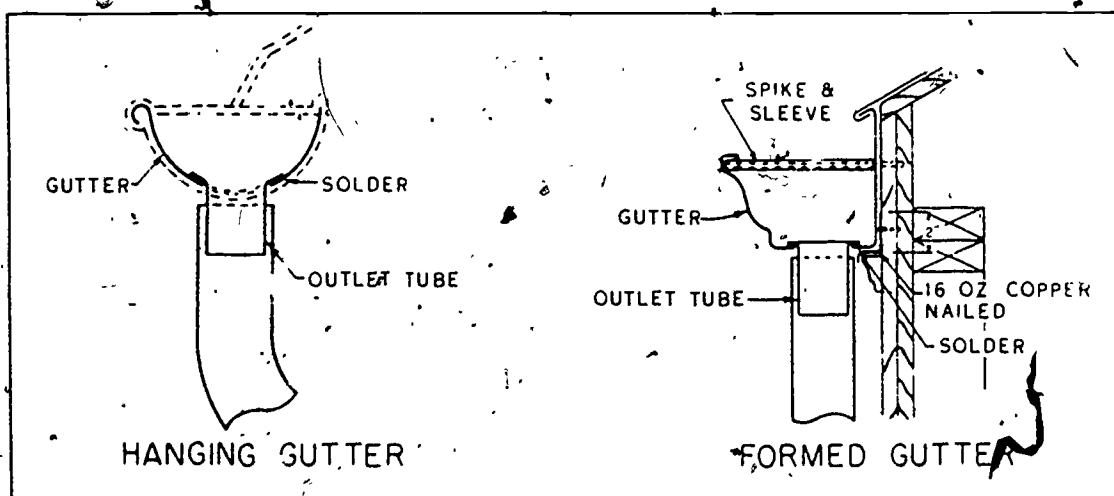
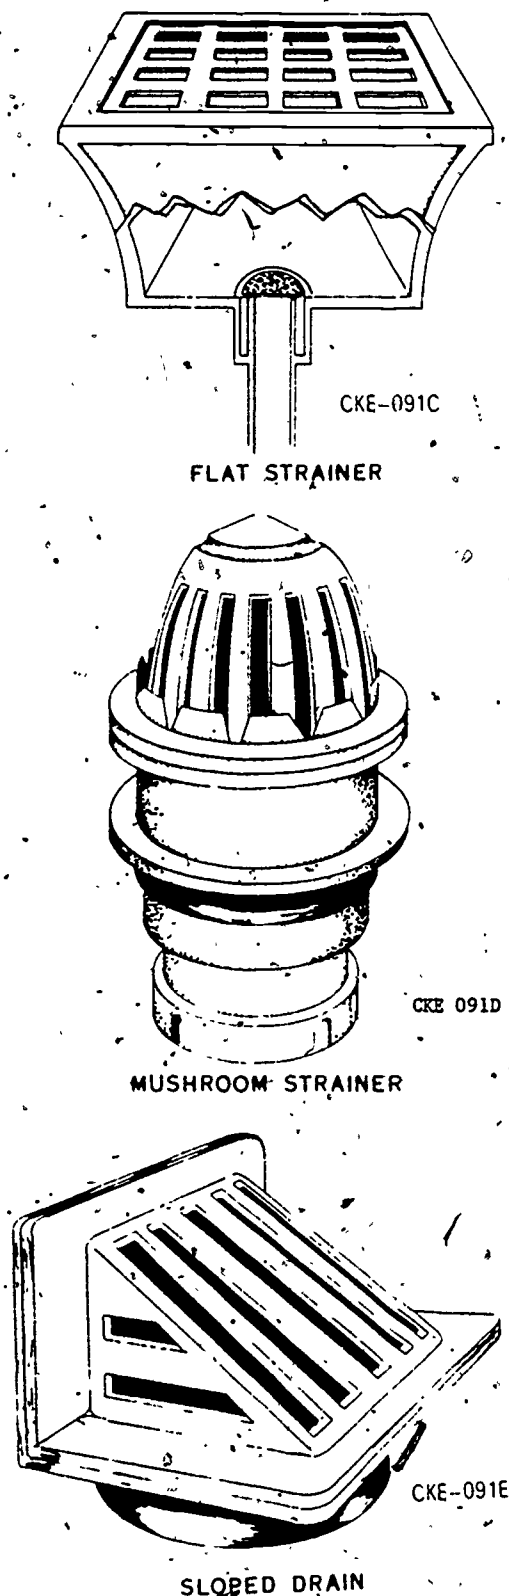

Figure 3-28 Hanging and formed gutters
Figure 3-29. Three types of roof drain strainers.
**Types of roof drains.** The water that accumulates on a roof may be removed by various methods. It may be allowed to run off and drip from projecting eaves or drain in gutters along the eaves. The water may also be collected by roof drains and carried to the sewer by interior drain pipes. The latter method is the most satisfactory, especially in cold climates where gutters and downspouts may clog up with ice and snow. This condition may cause water to back up above the flashing and find its way into the building. Inside drain pipes can be run down side columns, or installed in partitions or in exterior walls. In general, interior drain pipes receive sufficient heat from the building to keep them free of ice and snow. Figure 3-28 shows two types of gutters—the hanging gutter and the formed gutter—each of which can be used to collect the water at the eaves. There are three basic types of roof drain strainers: flat, mushroom, and sloped. (See fig. 3-29.)